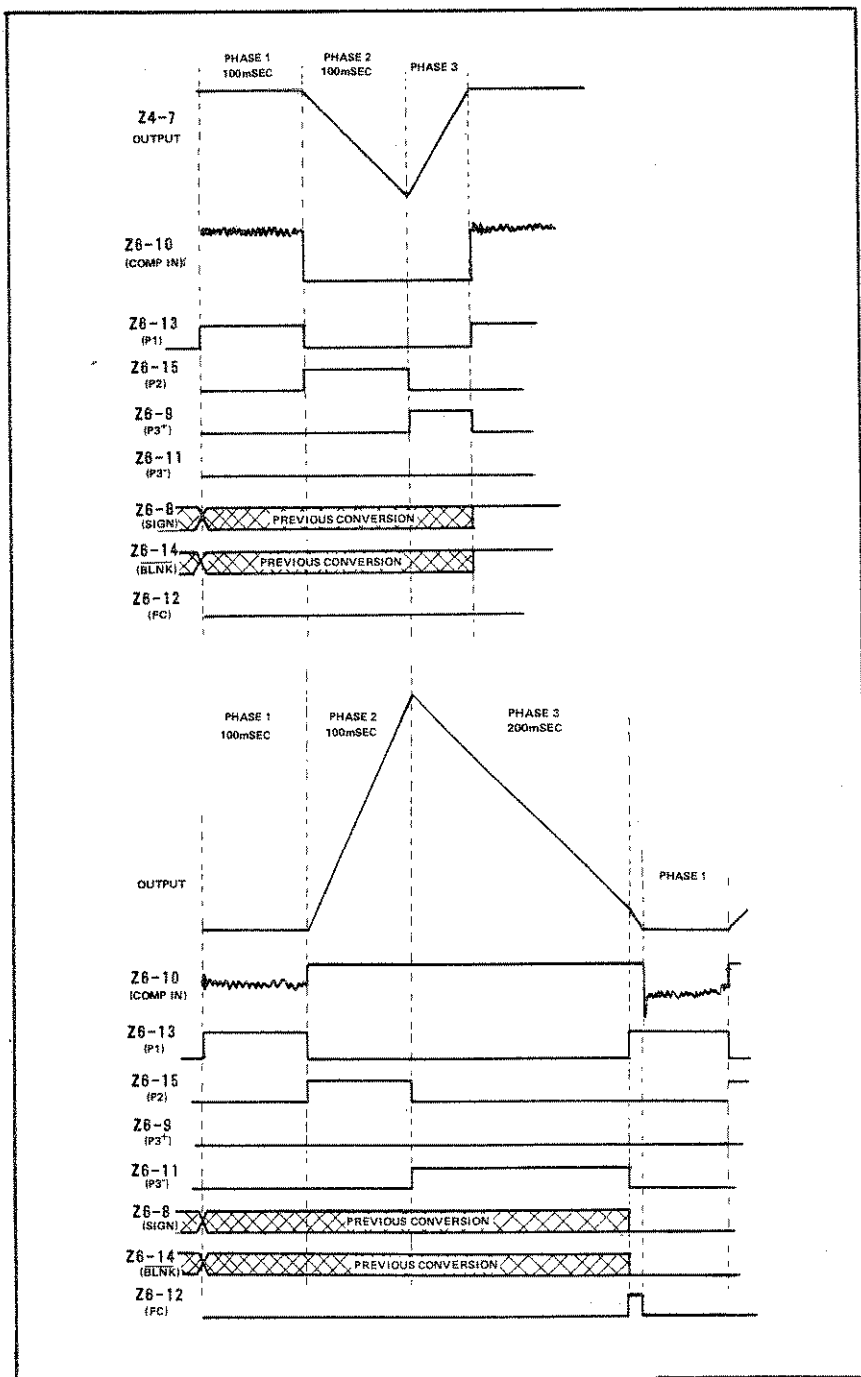

Fig. 3-7. Digital Logic Timing Waveforms
e. Figure 3-7 is a summary of the timing relationships of the waveforms generated in Z6. Conditions for converting an in-range A/D positive input are shown in the upper portion and for an overload negative input in the lower portion of the illustration. The SIGN output of Z6 is always produced; whether the polarity is displayed is determined by an enabling signal controlled by the setting of the front-panel Function Switch.
- b. Connect Z6-10 to Z6-5 and synchronize oscilloscope to positive going edge of P1 waveform by connecting to Z6-13. Observe waveform development in Z6 as shown in Figure 3-7.